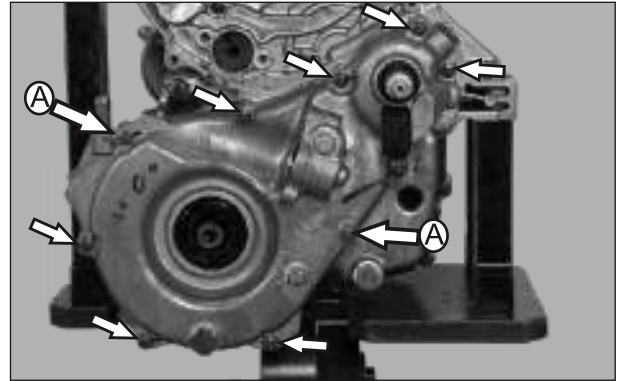

Fig. 3.74
- Loosen and remove 7 nos. hexagonal flange bolt M6X30 and 2 nos. hexagonal flange bolt M6X55(A) from the cover differential.(Fig. 3.74)